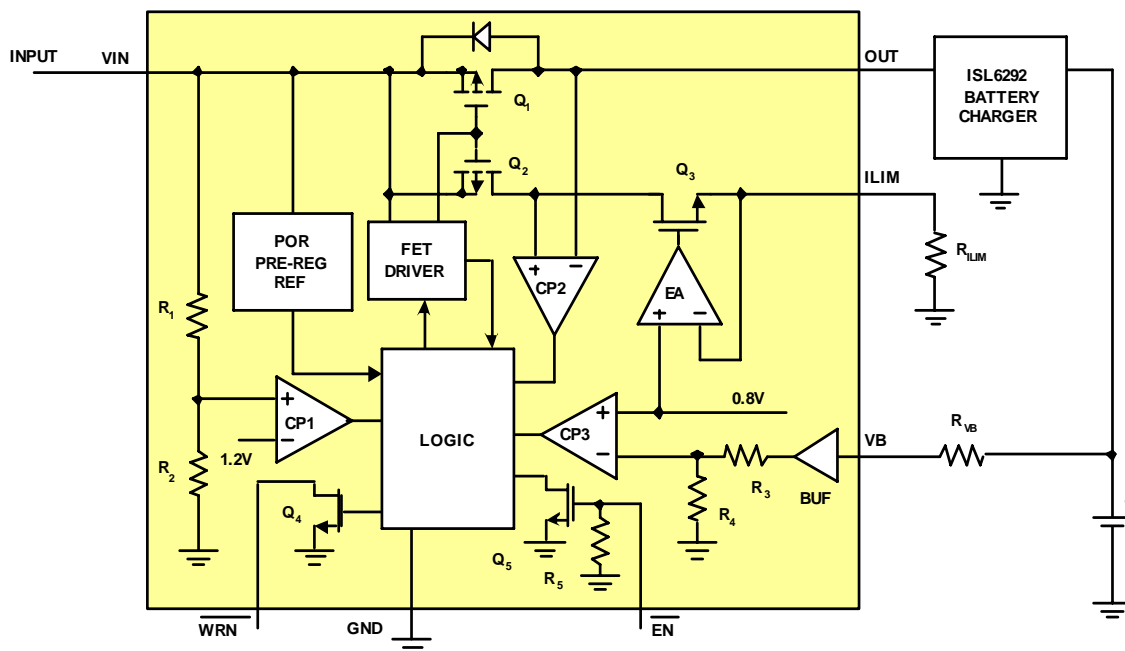
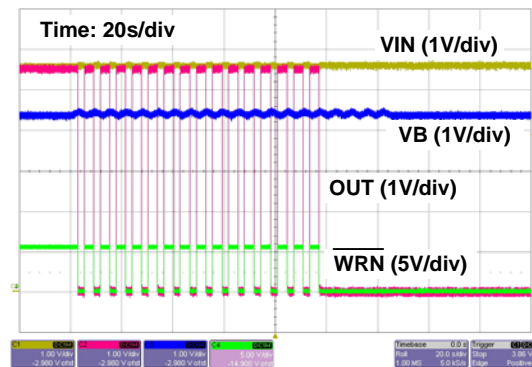

FIGURE 1. BLOCK DIAGRAM
FIGURE 7. BATTERY OVERVOLTAGE PROTECTION. THE IC IS LATCHED OFF AFTER 16 COUNTS OF PROTECTION. VB VOLTAGE VARIES BETWEEN 4.3V TO 4.5V
The input voltage is monitored by the comparator CP1 in the Block Diagram (Figure 1). CP1 has an accurate reference of 1.2V from the bandgap reference. The OVP threshold is set by the resistive divider consisting of R1 and R2. The
The battery voltage OVP is realized through the VB pin. The comparator CP3, as shown in Figure 1, monitors the VB pin and issues an overvoltage signal when the battery voltage exceeds the 4.4V battery OVP threshold. The threshold has 75mV built-in hysteresis. The comparator CP3 has a built-in 180μs blanking time to prevent any transient voltage from triggering the OVP. If the OVP situation still exists after the blanking time, the power PFET is turned off. The control logic contains a 4-bit binary counter that if the battery overvoltage event occurs 16 times, the power PFET is turned off permanently, as shown in Figure 7. Recycling the input power or toggling the enable (EN) input will reset the counter and restart the ISL9212A again.
The current in the power PFET is limited to prevent charging the battery with an excessive current. The current is sensed using the voltage drop across the power FET after the FET is turned on. The reference of the OCP is generated using a sensing FET Q2, as shown in Figure 1. The current in the sensing FET is forced to the value programmed by the ILIM pin. The size of the power FET Q1 is 31,250 times the size of the sensing FET. Therefore, when the current in the power FET is 31,250 times the current in the sensing FET, the drain voltage of the power FET falls below that of the sensing FET. The comparator CP2 then outputs a signal to turn off the power FET.